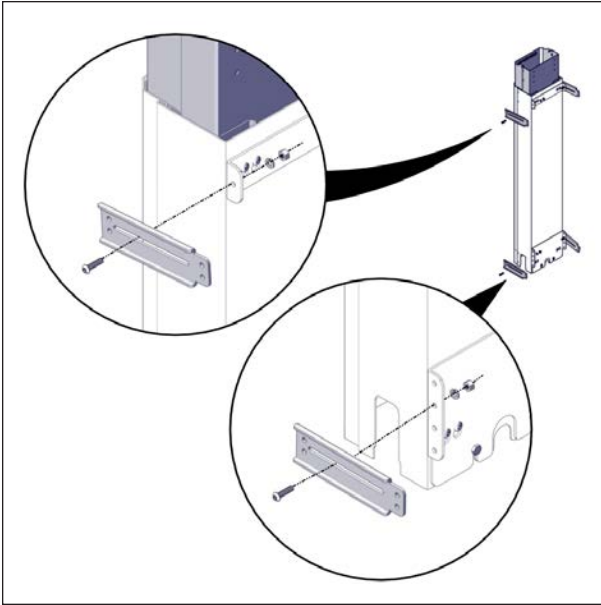

FIGURE 73: MOUNT BRACKET ARM INSTALLATION
- 3. Install the top and bottom mount bracket arms on one of the sleeves, see Figure 73.